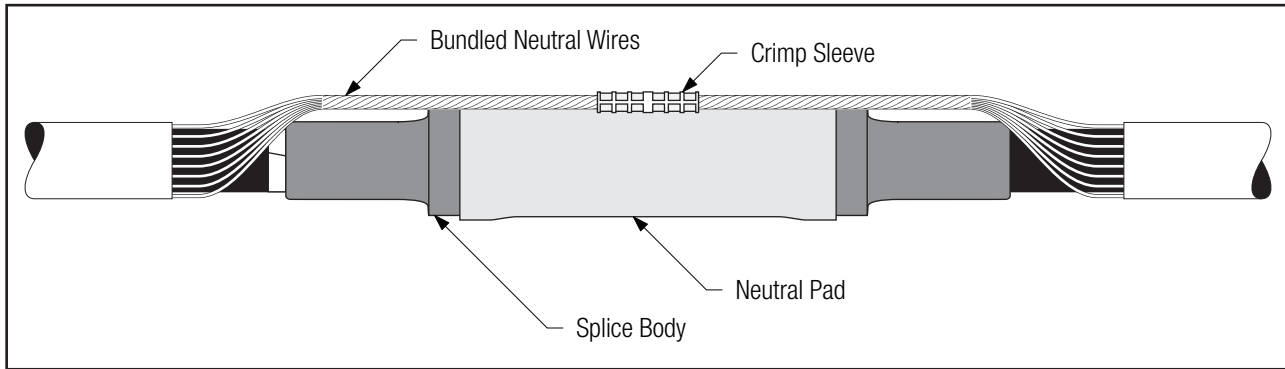

Figure 17
5.1.1 Center neutral pad on splice body. Remove temporary vinyl tape from neutral wires and connect with an inline compression connector (crimp sleeve). Route neutrals and connector over the neutral pad (Figure 17).